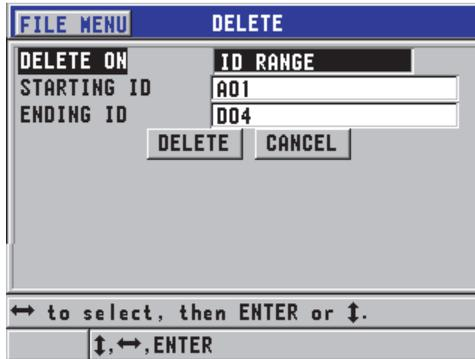

Figure 6-32 Deleting the data of an ID range in the active file
2. In the **DELETE** screen (see Figure 6-32 on page 110), set **DELETE ON** to **ID RANGE**.